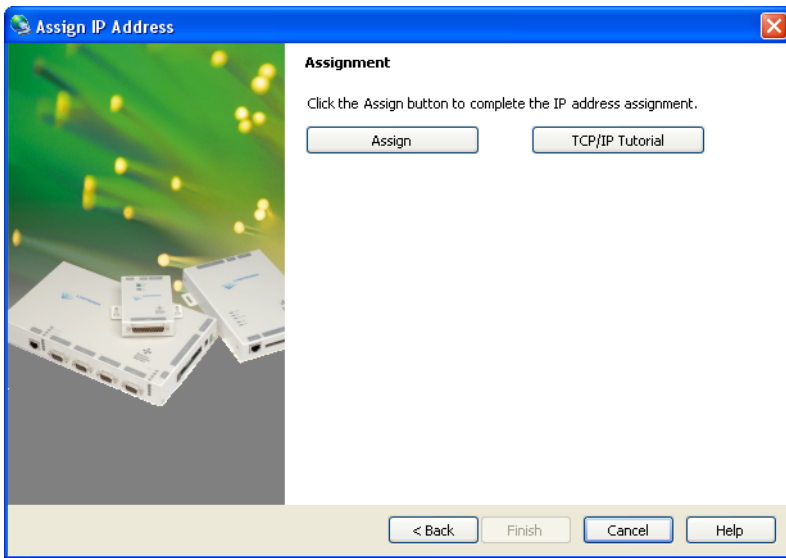

Figure 25: Assignment Window
11. If the IP Address is not in use and the unit responds, the Assignment Window appears (see Figure 25).